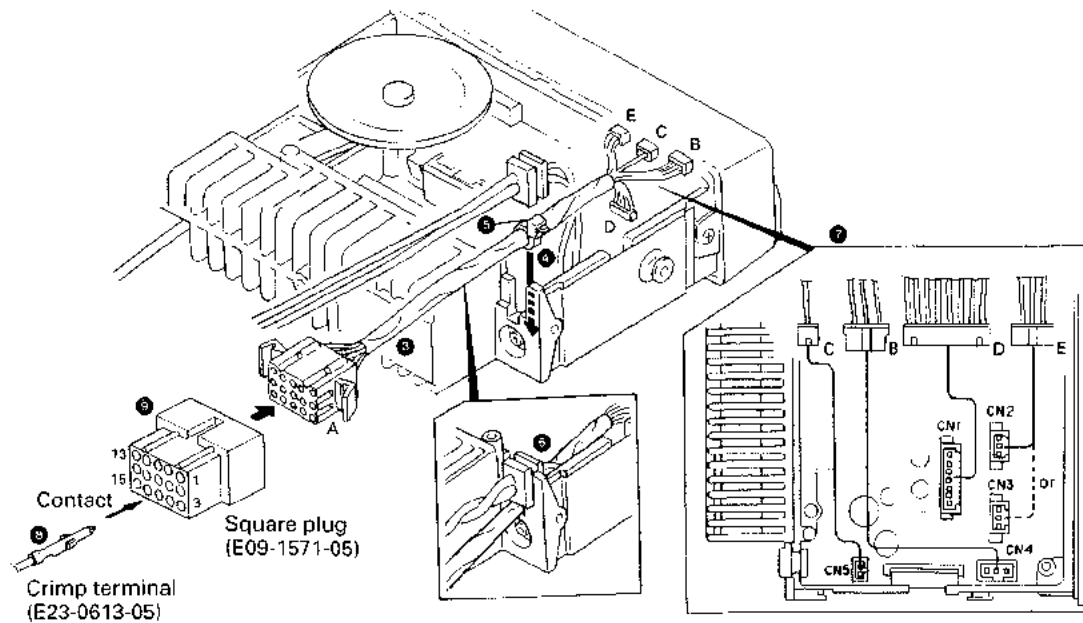

Fig. 8
1. Remove the upper and lower halves of the transceiver case, and lift the DC cord bushing (1) from the chassis.
2. Remove the pad (2).
3. Insert the KCT-19 cable (3) into the chassis (4). The wire harness band (5) must be inside the chassis.
4. Relocate the DC cord bushing in the chassis (6).
5. Connect the KCT-19 to the TX-RX unit (A/2) as shown in Figure 8 (7).
6. Connect the KCT-19 to the external accessory by inserting the crimp terminal (8) into the square plug (9), both of which are supplied with the KCT-19.